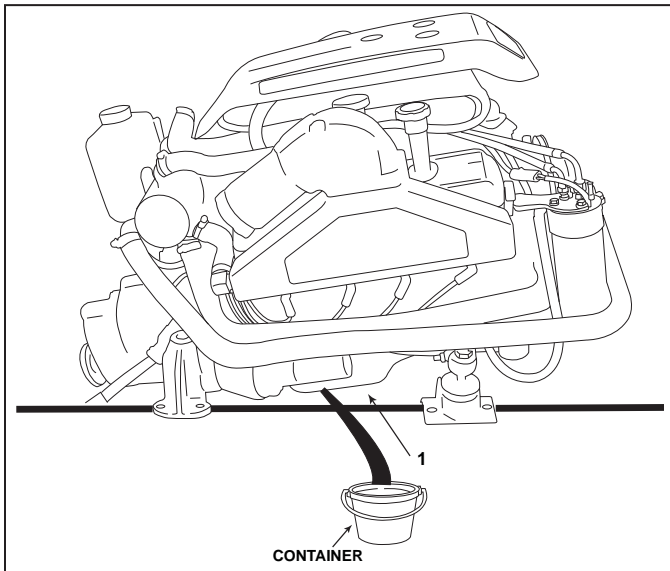

Figure 11-14 Engine Oil Removal (Typical)
1. With the engine at normal operating temperature, remove the oil pan drain plug ((1) side or bottom of pan) (Figure 11-14). Drain oil into a suitable container. Replace oil pan drain plug when crankcase is empty.